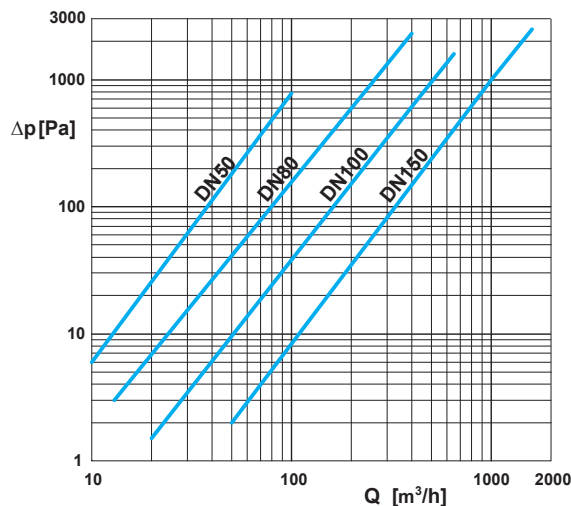

fig. 5 Diagram of pressure loss related to  $\rho = 1,2 \text{ kg/m}^3$
- $\Delta p$  = pressure loss from the diagram, fig. 5